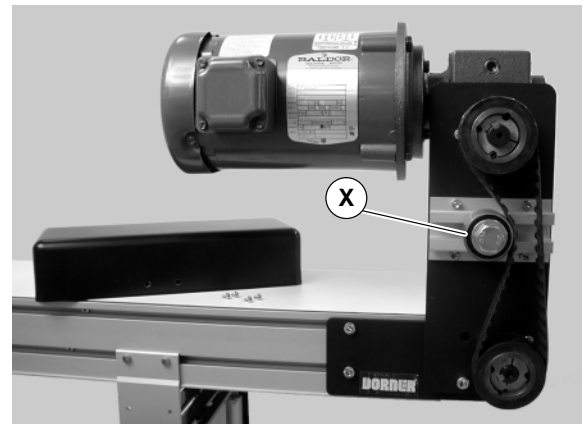

Figure 12
2. Loosen tensioner (X of Figure 12).
3. Loosen tensioner (X of Figure 12).